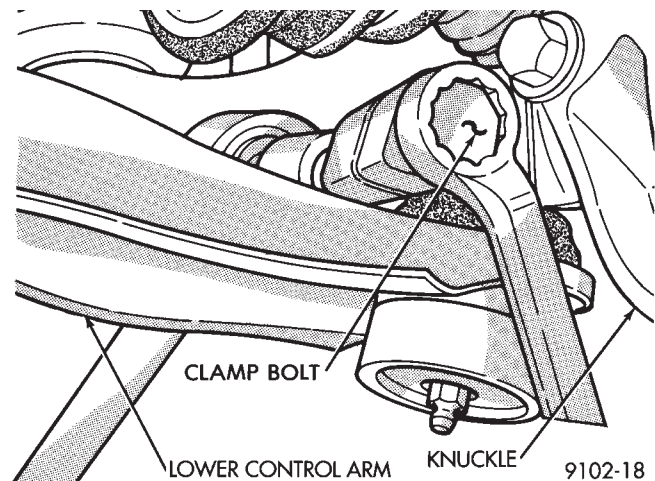

Fig. 14 Tighten Clamp Bolt
(6) Install original (or equivalent) ball joint to knuckle clamp bolt (Fig. 14) into steering knuckle. Tighten clamp bolt to 145 N•m (105 ft. lbs.) torque.